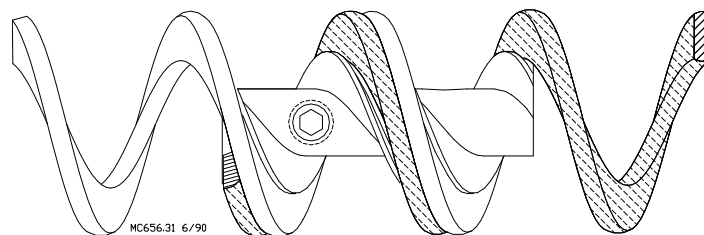

Figure 65. Auger Connector Installation
2. Untwist the remaining end of the auger 1-1/2 turns so when it is threaded onto the first end of the auger it will return to its relaxed position. Auger ends must be overlapped - **Not butted**, when threaded into the track of the auger connector, see **Figure 65**.